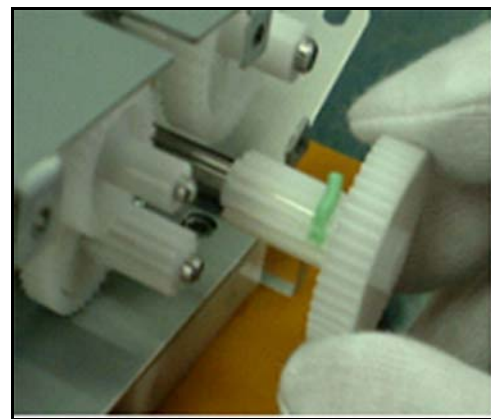

Figure 22
29. Install Gear C on to its spindle (see Figure 22). Make sure that the teeth on the large and small gear wheels are correctly engaged.